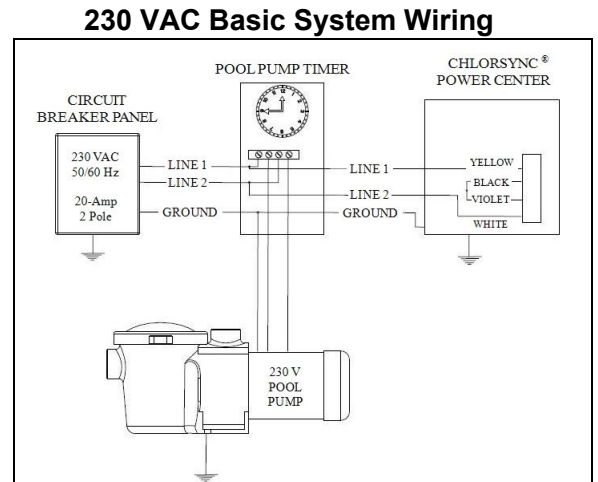

Figure 7
- See **Figure 7** for basic wiring to equipment.